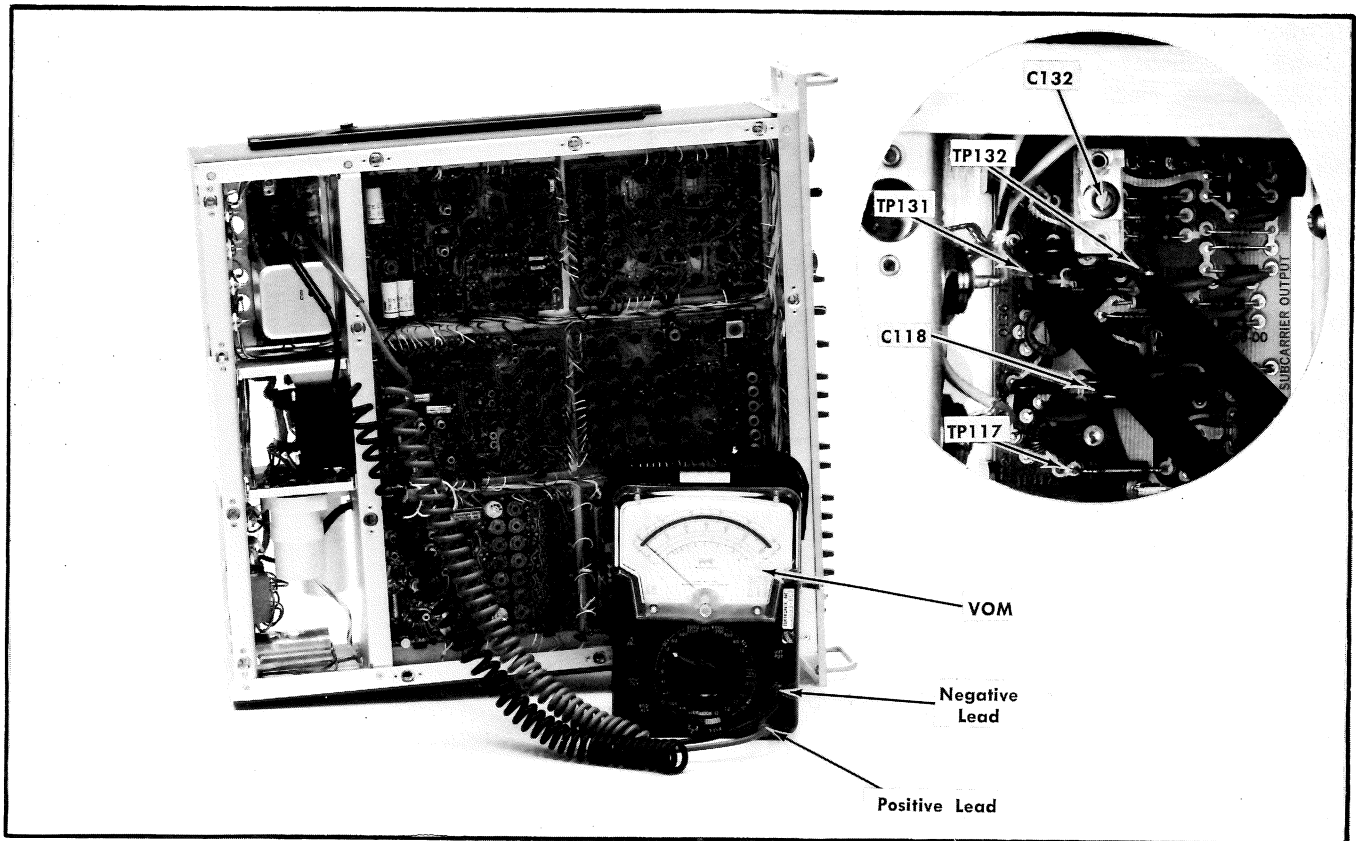

Fig. 5-5. Subcarrier Output board test point and adjustment locations.
g. Connect a 10X probe from the Type 1A5 B Input connector to TP117 on the Subcarrier Output board (see Fig. 5-5).
If the peak to peak voltage of the display at TP117 is less than 5 volts, a new value of C118 (see Fig. 5-5) must be selected until the requirement of part h is obtained.
j. Connect the VOM between TP131 and TP132 on the Subcarrier Output board as shown in Fig. 5-5.
k. ADJUST—C132 (see Fig. 5-5) for minimum deflection on the VOM.